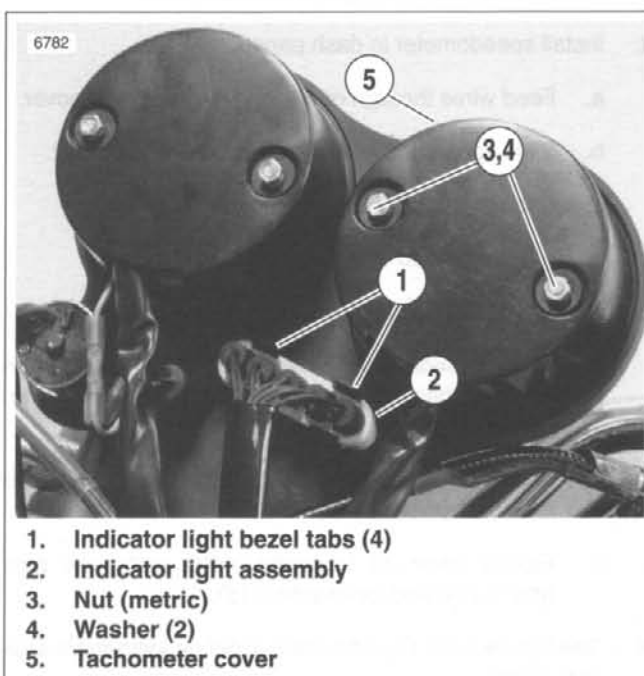

Figure 7-65. Back Dash Panel
3. See Figure 7-65. Remove two nuts (metric) (3) and lock-washers (4) from tachometer cover (5).
4. Slide tachometer cover (5) away from tachometer.